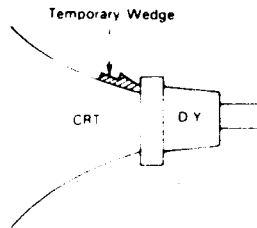

FIGURE 5
4. Move the two Purity Magnets and bring the Magenta belt to the mechanical center of the screen (See Fig. 5) The vertical center position should be set VRS to $-5/64$ " (-2 mm) as shown in Fig. 6.
10. Insert the temporary wedge as shown in Fig. 5 and adjust the angle of Deflection Yoke.